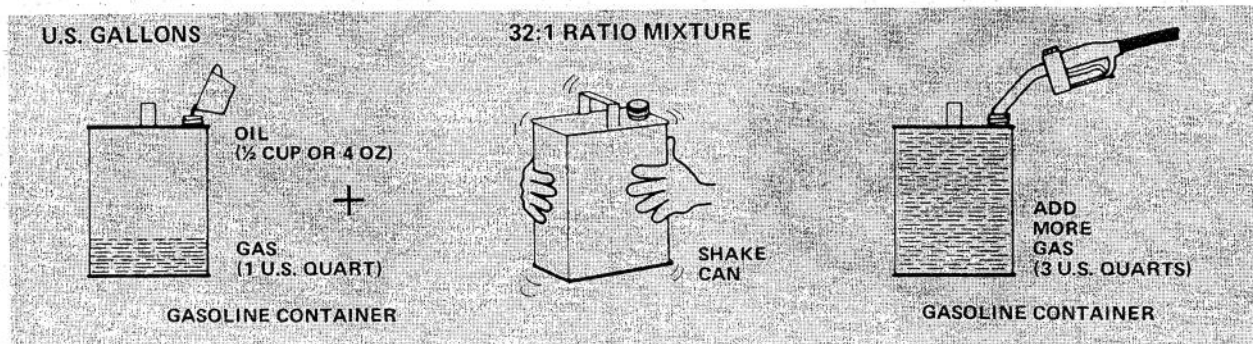
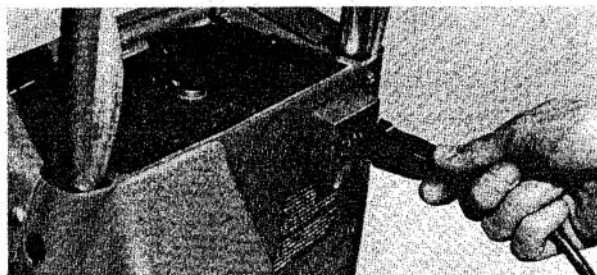

Figure 7
Figure 9
1. Add 1 U.S. quart of leaded REGULAR or unleaded gasoline to a gasoline container (Fig. 7).
2. Pour 1/2 cup — 4 oz — of two cycle engine oil into the gasoline container (Fig. 7). DO NOT use multi-viscosity oils.
3. Shake the gasoline container vigorously so oil mixes with gasoline (Fig. 7). Remember to install cap on gasoline container before shaking.
4. Add an additional 3 U.S. quarts of gasoline to the premixed gasoline (Fig. 7). Fuel mixture is now ready to use in your S200 Snowthrower.
To start S200 Electric Start, plug in extension cord (Fig. 9) and push start button (Fig. 7). If engine does not start within 10 seconds, repeat priming and starting procedure until the engine starts.